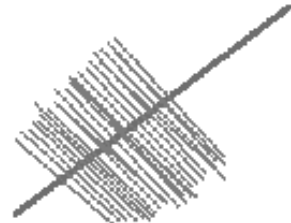

Fig 1
2. Cut some bristle from the brush head and lay it along half the length of the garden wire. Leave 1/2" free. You might find this bit easier if you first apply some neat PVA along the wire (fig 1).